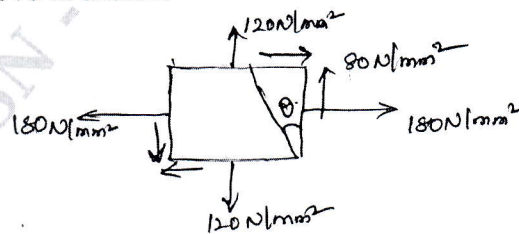

Fig.Q.3(b)
- b. The state of stress at a point in a strained material as shown in Fig.Q.3(b). Determine: